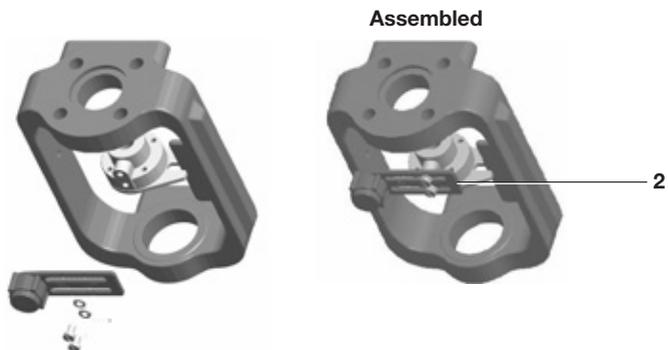
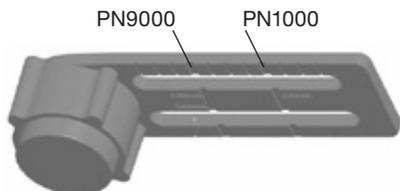

Fig. 6
Fig. 7 Bracket markings
**5.2.2** Slide the bracket (2) to the left or to the right (Figure 6) till the correct position is achieved. If you're using a Spirax Sarco actuator the correct position is impressed on the magnet bracket (Figure 7).